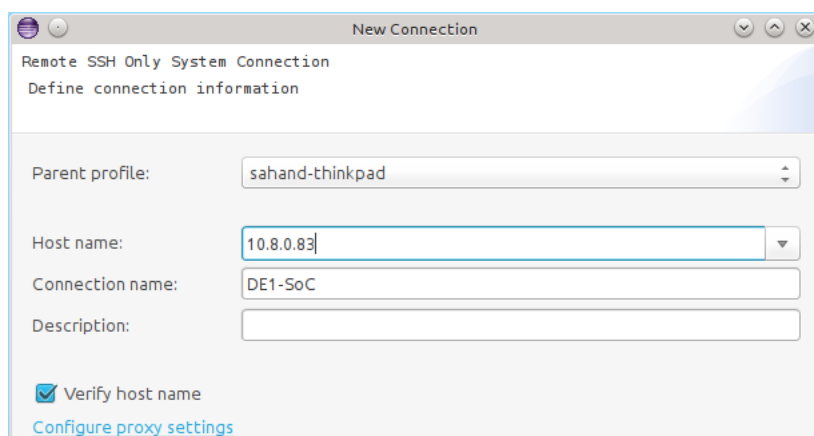

Figure 8-48. New SSH Only Connection
16. Enter “DE1-SoC” as the “Connection name”. You should have something similar to Figure 8-48.